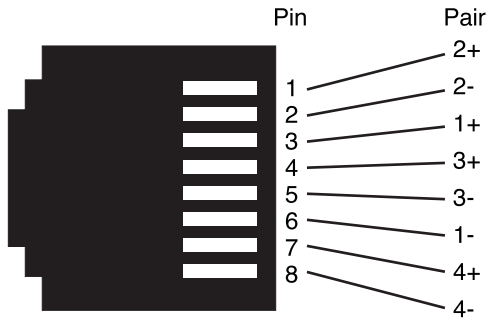

Figure 7. RJ-45 pin-out
4. The CL1101E/IP67 is equipped with an RJ-45 interface jack. Terminate the cable with an RJ-45 connector (see **figure 7** for pin-out diagram).